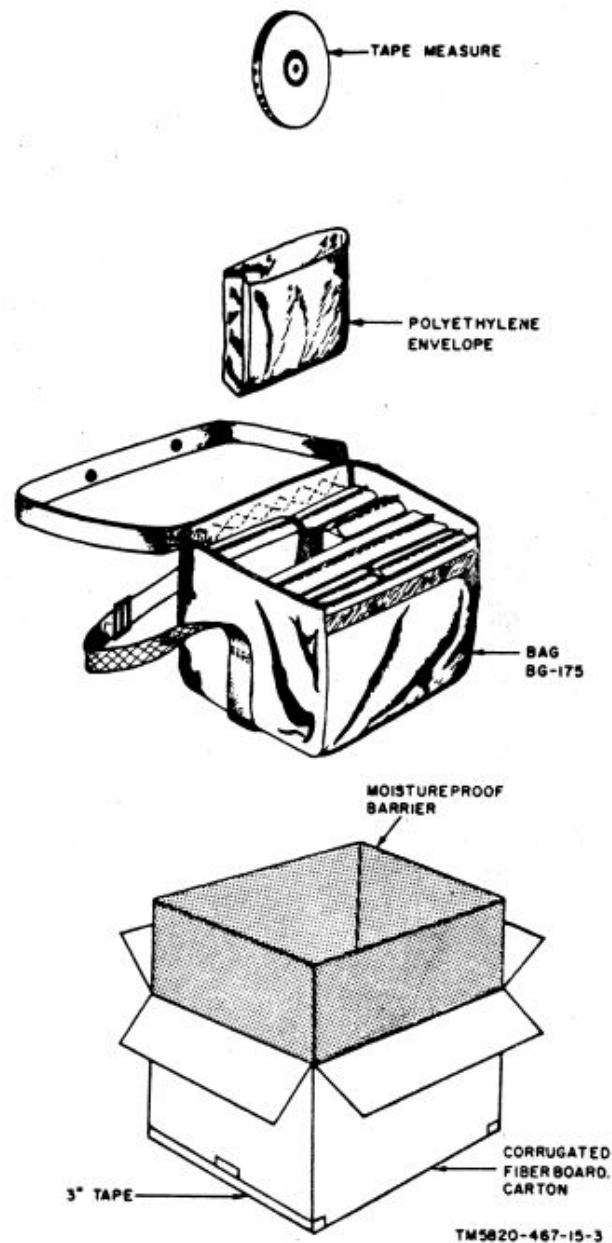

Figure 3. Typical packaging.
*a. Packaging Data.* When packed for shipment, the components of the antenna assembly are individually enclosed in polyethylene envelopes and packed in Bag BG-175. Bag BG-175 is enclosed in a moistureproof barrier and sealed in a corrugated fiberboard carton. Packed for shipment, the carton weighs 13 pounds and is 10 inches high, 9 inches deep, and 10 inches wide; its volume is 0.5 cubic feet. A typical shipping carton and its contents are shown in figure 3.
- (1) Open the carton. Do not cut open the carton, because the equipment may become damaged.
- (2) Open the moistureproof barrier and remove Bag BG-175.
- (3) Open Bag BG-175 and remove its contents.
- (4) Remove the components from the polyethylene envelopes.